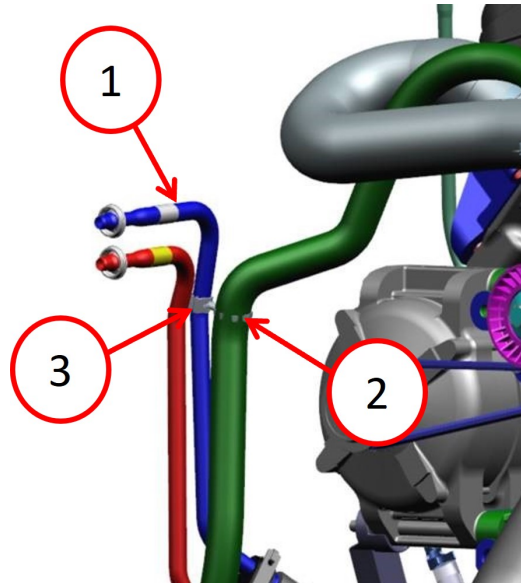

Fig. 4
8. Ensure oil cooler coolant hose clip is attached to the transmission oil cooler line (Fig. 4) .